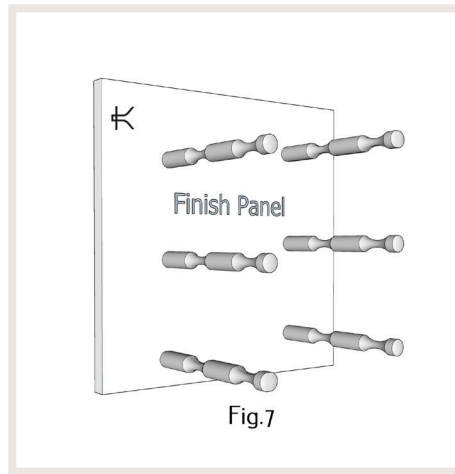

Fig.7
11. Thread and hand tighten the rest of the wine hardware according to design. ***Fig7**